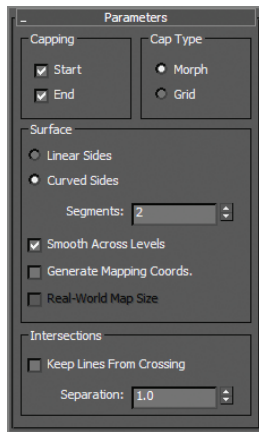

FIGURE 2.36
13. Change Segments to 2, and check the box next to Smooth Across Levels, as shown in Figure 2.36. This will give the 12 rounded smooth sides.